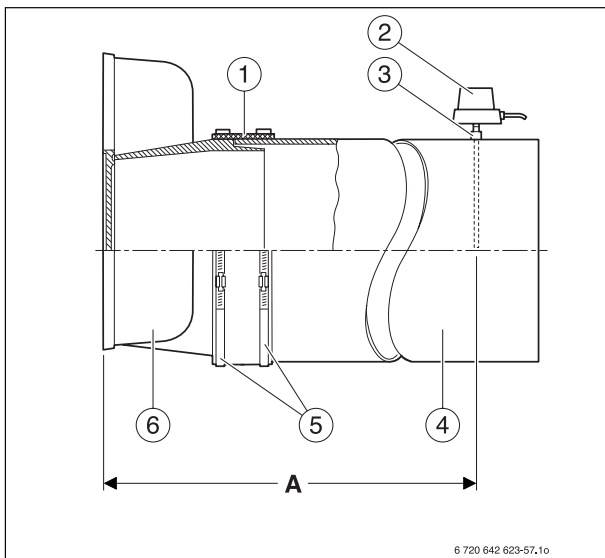

Fig. 45 Installing the vent pipe
We recommend you use a vent pipe sealing collar (→ Fig. 45, [1]).
- ▶ Place hose clamps (Fig. 45, [4]) over the vent pipe sealing collar. One of the hose clamps must press onto the draft diverter outlet and one onto the vent pipe.
- ▶ Weld a sleeve (Fig. 45, [3]) at a distance of two (2) × vent pipe diameters (A) – min. 720 mm – from the draft diverter in the vent pipe.
- ▶ Fit the flue gas temperature sensor (Fig. 45, [2]) as described in the separate installation manual.